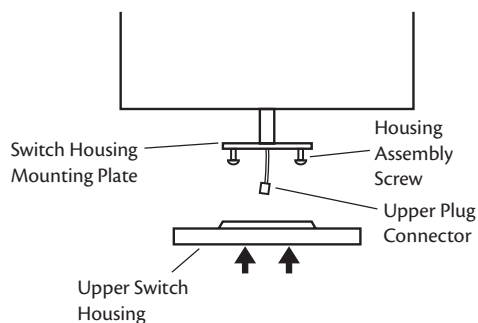

Figure 22 - Attaching the upper switch housing to the mounting plate
1. Partially install two #6-32 x 3/8" housing assembly screws into the switch housing mounting plate as shown in Figure 22.
2. Feed the upper plug connector through the center opening of the upper switch housing. See Figure 22.